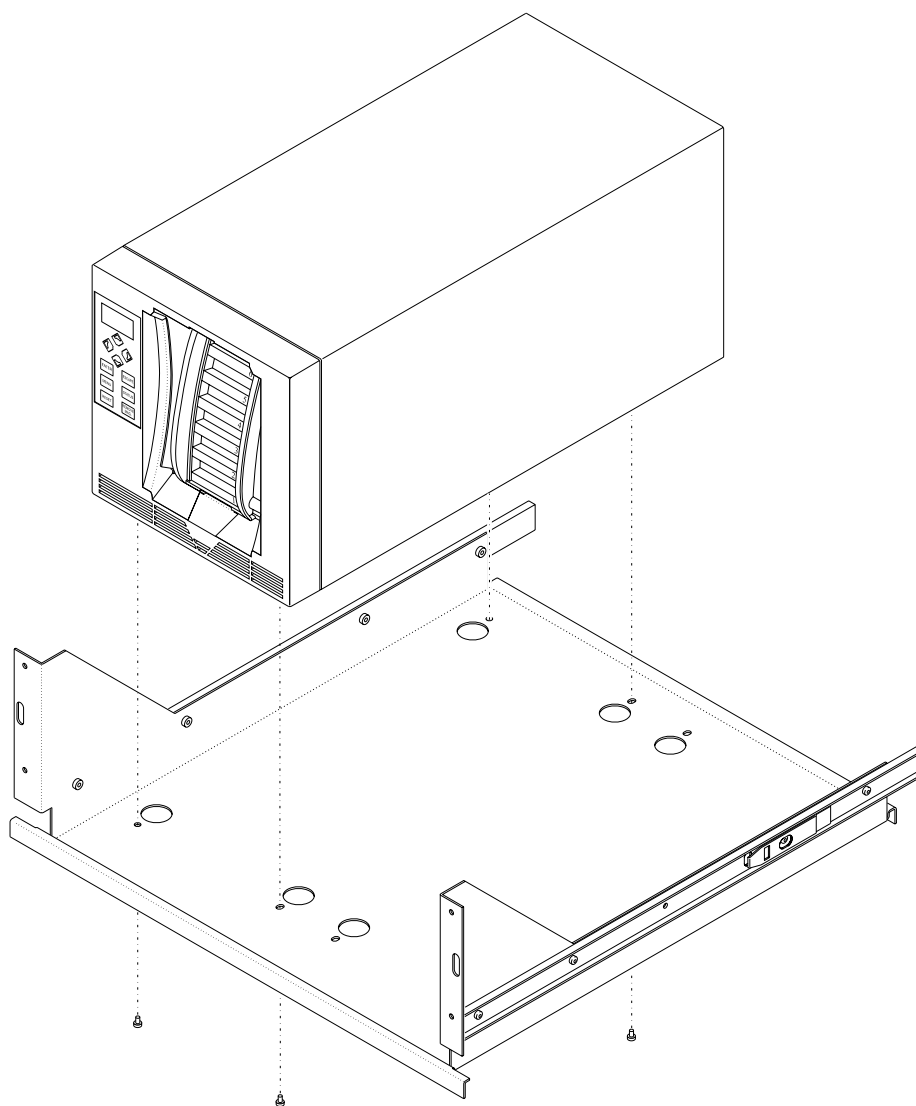

Figure 7-8 Removing the autoloader from the tray
3. Remove the four screws that secure the bottom of the autoloader to the tray, and lift the autoloader off the tray (see **Figure 7-8**).